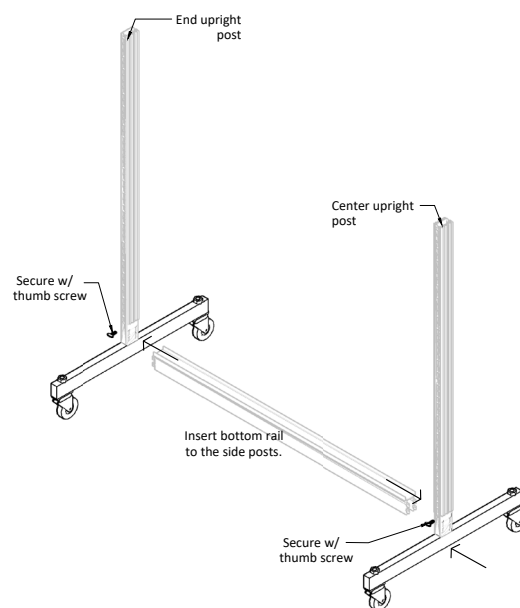

FIGURE 3.0
- 3.0 Next place the 2 "T" shape panels and connect as shown in figure 3.0 to create square form in the center. Align the holes and secure with top and bottom bolts.